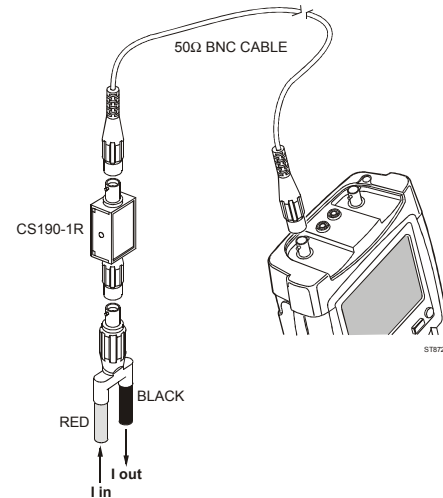

Figure 2-1. mAs measurement
- CS 190-1R, 1 Ohm current shunt for sensitive current and mAs measurements. (Max. 500 mA) . See Fig. 2-1.
- 1 Connect the current shunt CS190-1R to input A using the BNC cable (see Figure 2-1)
- 2 Connect the current shunt resistor CS 190-1R to the current source using the BNC to banana adapter (see Figure 2-1)